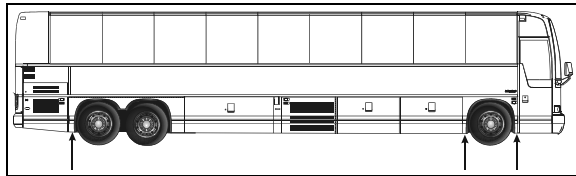

FIGURE 5: JACKING POINTS ON FRAME 18618
1. Raise vehicle by its jacking points on the body (fig. 5 or see Section 18, "Body" under heading "Vehicle Jacking Points"). Place jack stands under frame. Remove drive axle wheels (if required, refer to Section 13, "Wheels, Hubs And Tires".